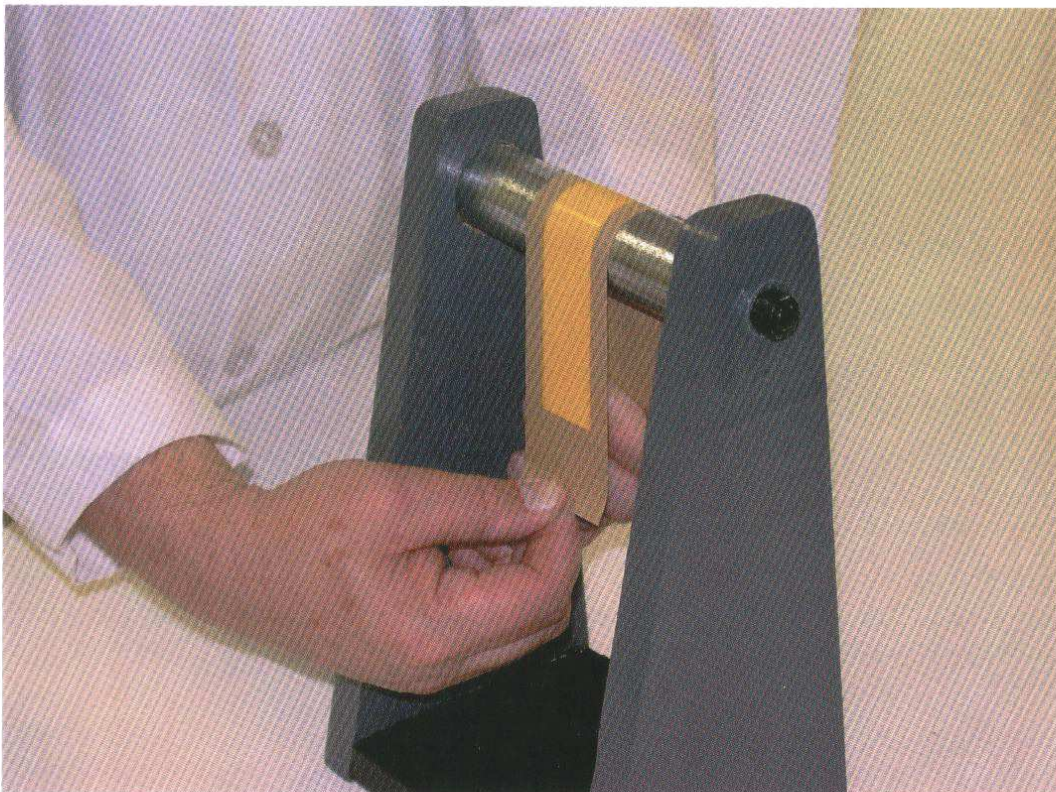

Figure 1. Mandrel for adherence to linerboard test.
4.5 Nonrotating, smooth surface, metal cylinder, having a diameter of 37.5 ± 6 mm (1.5 ± 0.25") and minimum length of 50 mm (2") fixed to a base of support for use as a mandrel around which to flex the tape specimen assembly (see Figure 1).